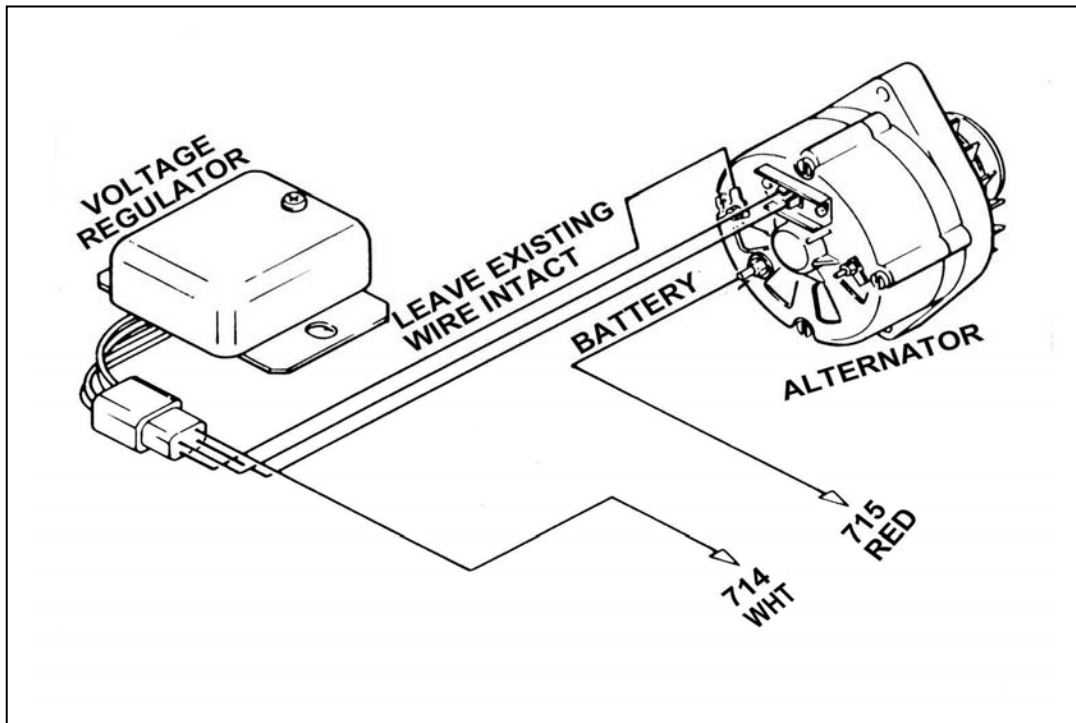

Figure 8.2 Motorola Charging System
**8.1.3 Motorola Alternator Charging System. See Figure 8.2.**